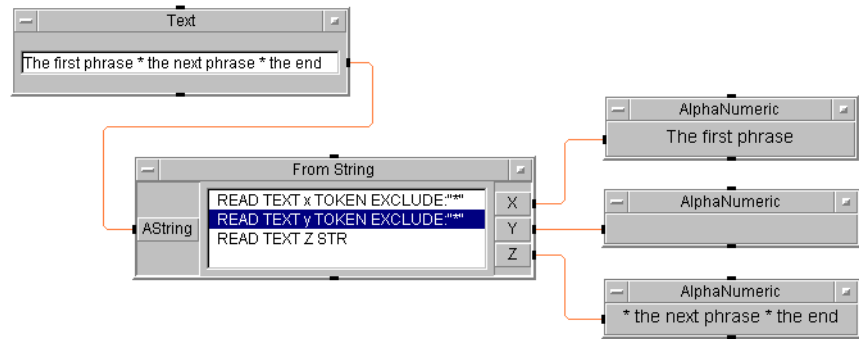

**Figure 1-10. READ TEXT Transaction with TOKEN in VEE 4 Mode**
**READ TEXT Transactions.** In VEE 3 and VEE 4 modes, the READ TEXT transaction using the TOKEN format with EXCLUDE CHARS does not advance the read pointer to exclude the specified character. Figure 1-10 shows an example of this in VEE 4 mode: